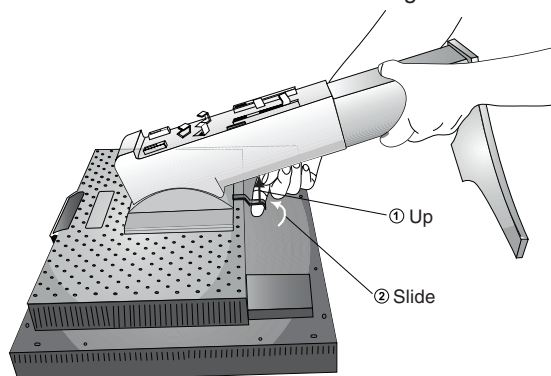

**Figure S.1**
3. Place monitor face down on a non-abrasive surface (**Figure S.1**).